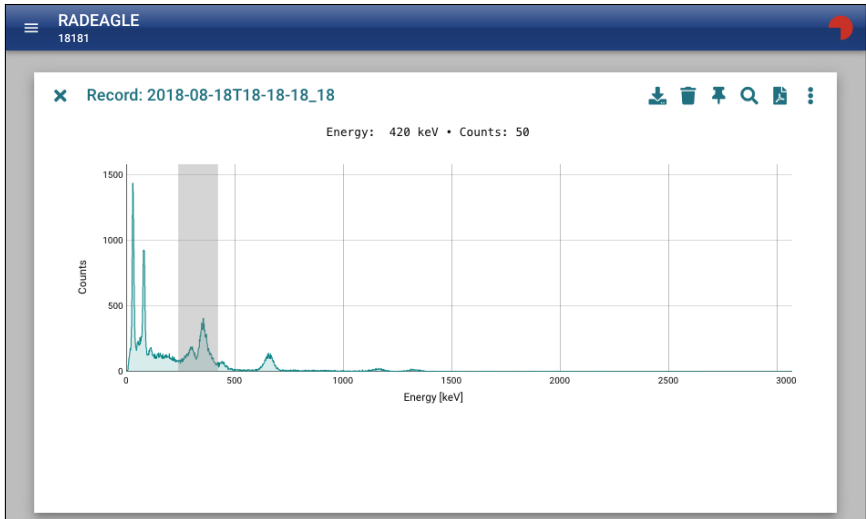

Figure 105: Zooming into the spectrum
2. Drag to the other end of the ROI. The region will be accented (Fig. 105, p. 91).